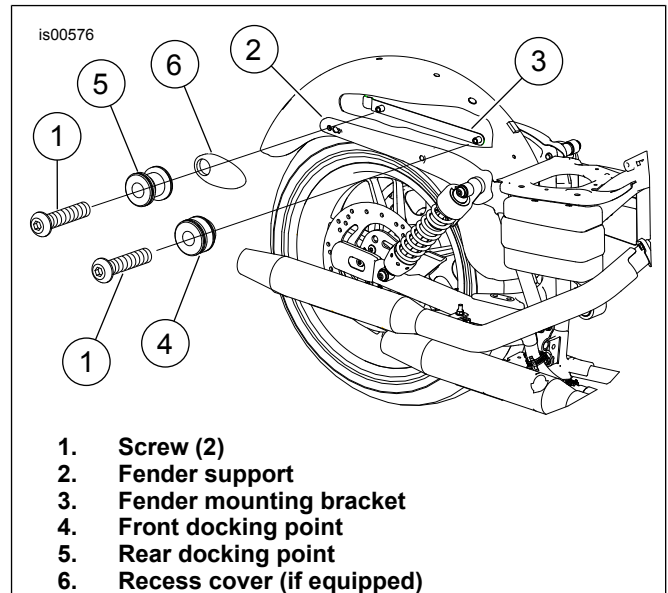

Figure 1. Models with Detachable Accessories
2. See Figure 1. Work on one side of the vehicle at a time. Remove and discard two fender mounting screws (1).
3. Remove front docking point (4) and rear docking point (5). Save for later use.